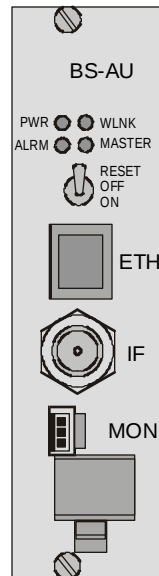

Figure 2-6. BS-AU Front Panel
The BS-AU front panel is shown in Figure 2-6.
3. Connect the IF cable(s) to the connector(s) marked IF located on the front panel(s) of the BS-AU module(s) shown in Figure 2-6. The other side of the IF cable should already be connected to the outdoor unit.